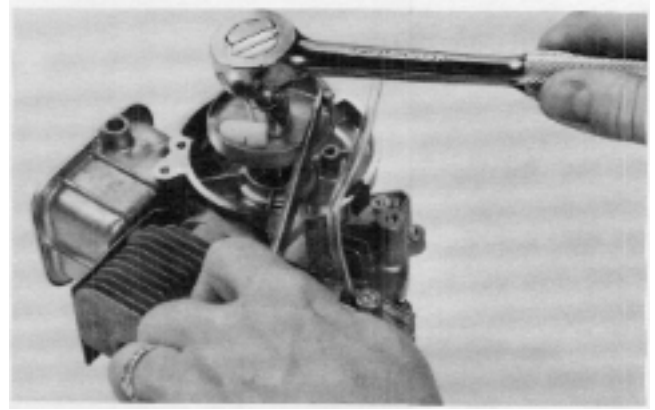

Figure 96
5. Remove the nut securing the starter pulley to the crankshaft. See Figure 96.